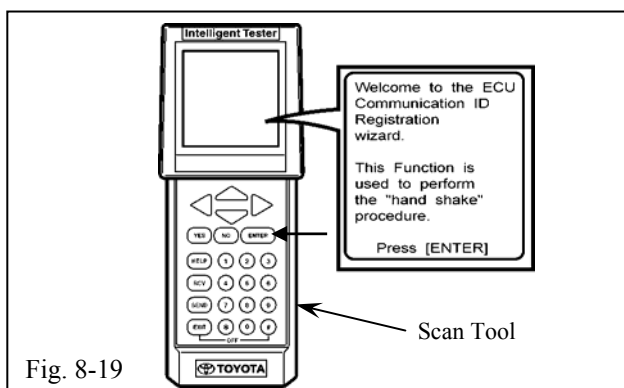

Fig. 8-19
- (aa) At the Information Screen, press the "ENTER" button. (Fig. 8-19)